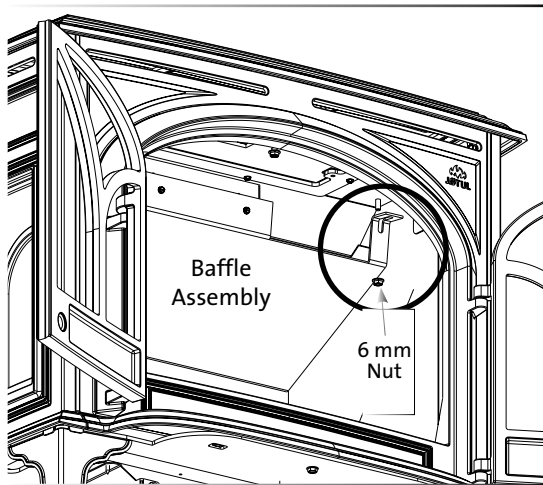

Figure 5.6. Remove Baffle Assembly with removal of two 6mm nuts at the top of the firebox.
- Remove two, 6 mm nuts to detach the secondary baffle from the firebox. See figs. 5.6 - 5.7.